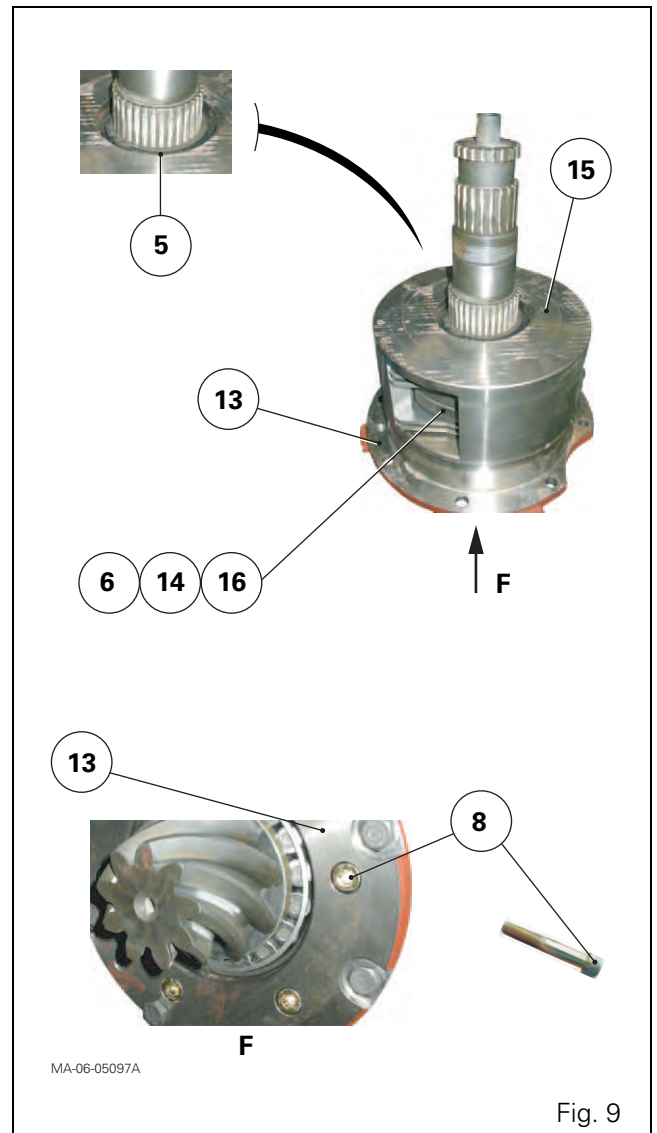

Fig. 9
Take off the circlip (5) (Fig. 9).
Loosen and remove screws (8) (Fig. 9).
- 23.** Remove (Fig. 9 and chapter 6):
- the discs (14);
- the intermediate plates (6);
- the handbrake mechanism (16).
- the bearing cup (2) from the intermediate housing (19);
- the bearing cup (10) from the carrier (13);
- the bearing cone (7) from the drive pinion (9).